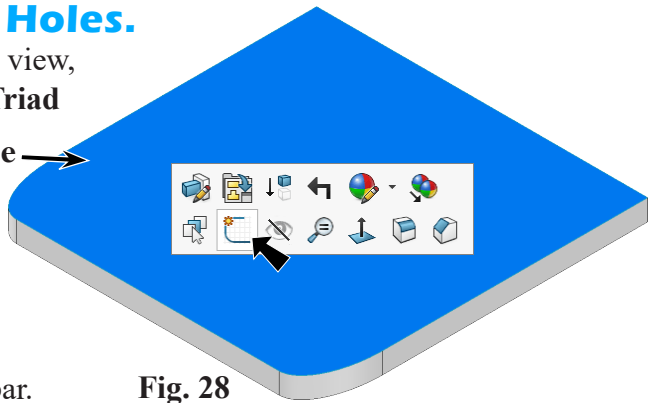
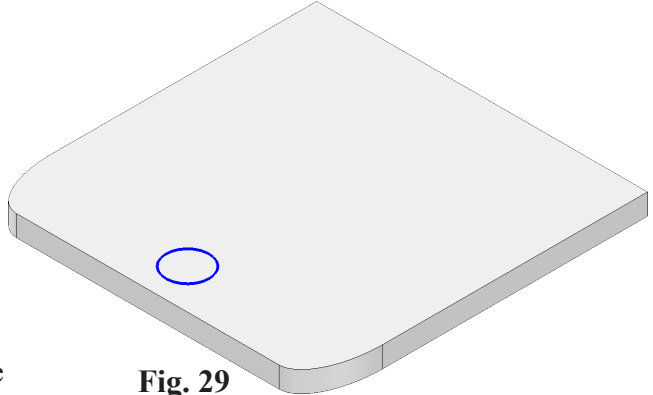

Fig. 28
Fig. 29
Step 1. Rotate view to bottom, Fig. 28. To rotate view, **Shift click the Z axis of the Reference Triad**
Step 2. Click the **bottom face** and click **Sketch** on the context toolbar, Fig. 28.
Step 3. Click **Circle** (S) on the Sketch toolbar.
Step 4. Sketch **circle**, Fig. 29.